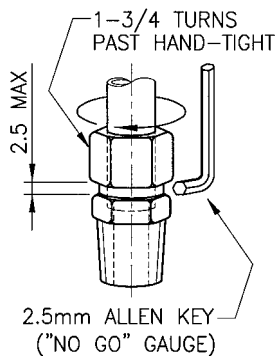

Figure 5
4. Fit conduit to compression tube fitting and tighten nut on fitting as shown in Figures 5 & 7 (2.5 mm hex key used as a no-go gauge which is approximately 1¼ turns after hand tight.) This connection **must** be gas-tight.
1. Tighten nut on 1" NPT bored through compression fitting as shown in Figure 5
5. Remove tape from conduit, refit compression tube fitting to conduit. Tighten nut on fitting as shown in Figure 5